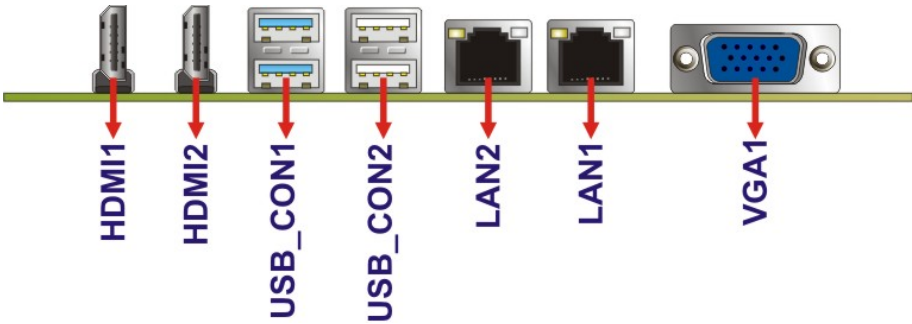

Figure 3-27: External Interface Connectors
The NANO-QM871-i1 on-board external interface connectors are shown in **Figure 3-27**.
- CN Location: See **Figure 3-27**
CN Location: See **Figure 3-27**
- CN Location:** See **Figure 3-27**
CN Location:	See Figure 3-27
See **Figure 3-27**